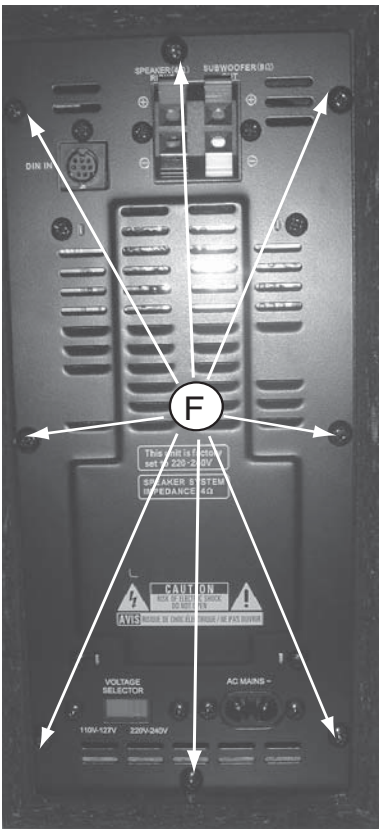

Figure 6
- 1) Loosen 8 screws "F" on the rear plate of speaker set as shown in figure 6.